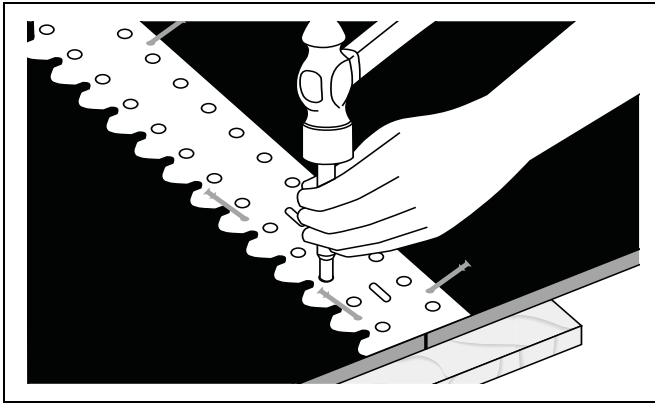

Figure 4E
2. Support belt ends with wood plank. Nail Flexco Templet in position with belt ends tight against lugs. Templet nails are in bolt bag. *(See Figure 4E on Page 21.)*